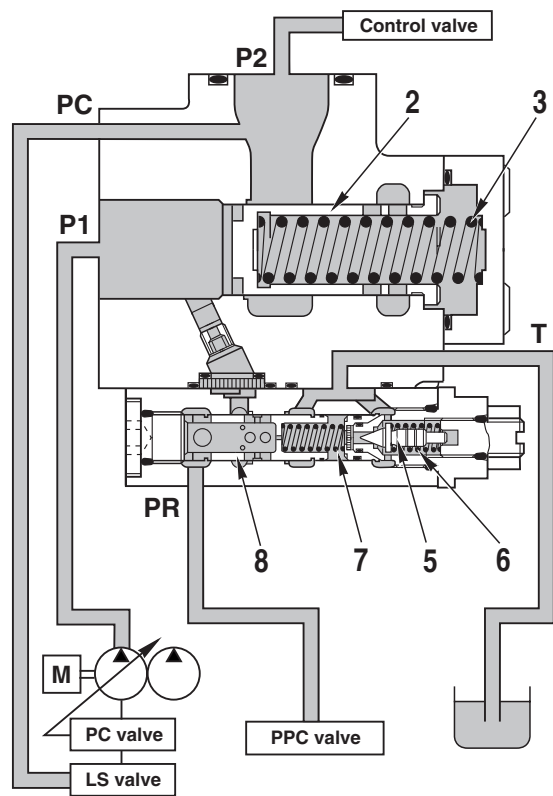

Fig. 1
- Poppet (5) is pushed against the seat by spring (6), and the passage from Port **PR** \Rightarrow **T** is closed.
- Valve (8) is pushed to the left by spring (7), and the passage from Port **P1** \Rightarrow **PR** is open.
- Valve (2) is pushed to the left by spring (3), so the passage between Port **P1** \Rightarrow **P2** is closed.
- (See Fig. 1)